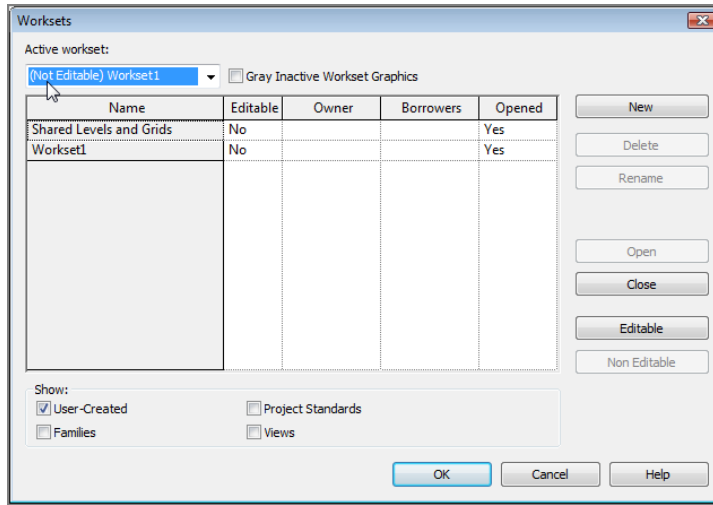

FIGURE 22.8: Releasing the worksets by clicking No for Editable
9. Change both worksets by choosing No in the Editable column (see Figure 22.8).